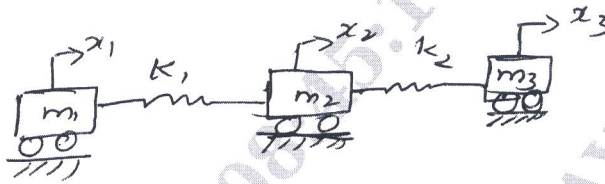

Fig.Q9
- 9 Determine the natural frequency and the mode shape of the system shown in Fig.Q9 by the Holzer's method.